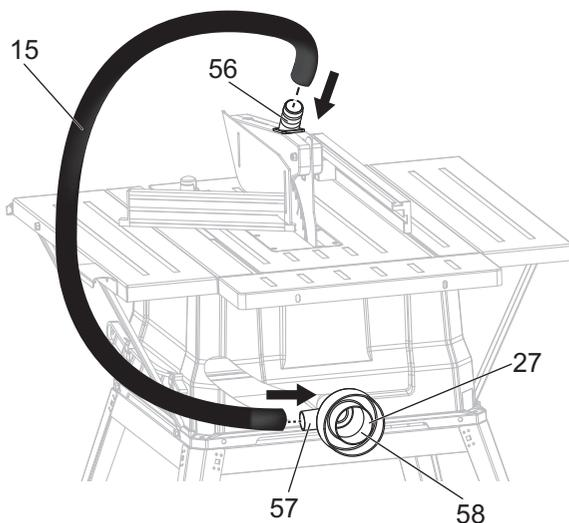

Fig. 22
- > Attach the dust extraction hose [15] to the dust ports [56] on the blade guard and the side B [57] dust extraction adapter [27] as shown in the Fig. 22.
- > To prevent sawdust buildup, for best result, attach a vacuum hose (not included) to the side C [58] of the dust extraction adapter [27] (See Fig. 22). DO NOT operate the saw with hose in place unless the vacuum is turned on.